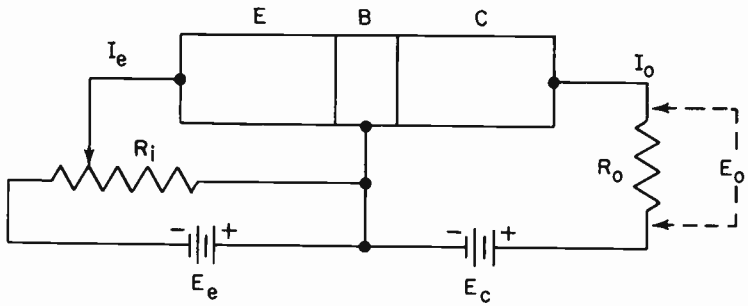

FIG. 10-8. CIRCUIT FOR STUDYING TRANSISTOR AMPLIFICATION.
**HOW A TRANSISTOR AMPLIFIES.** The voltage gain of a vacuum tube is defined as the ratio of the signal voltage developed across the load to the signal voltage applied to the input of the tube. The same definition is used for the voltage amplification of a transistor. It is somewhat easier, however, to make an analysis of transistor amplification by considering what takes place across the load resistor or other load impedance when a small change of DC voltage is applied across the input circuit. We might, therefore, set up the equipment shown in Fig. 10-8. Resistor  $R_i$ , in the emitter base circuit, permits us to vary the potential applied between these two elements. The output voltage  $E_o$  is equal to the collector current, multiplied by the resistance  $R_o$ .